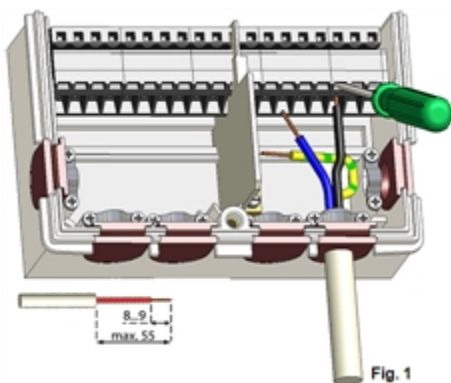

Fig. 1
2. Strip lines a max. of 55 mm, assemble the strain reliefs, strip wire ends 8-9 mm (figure 1)